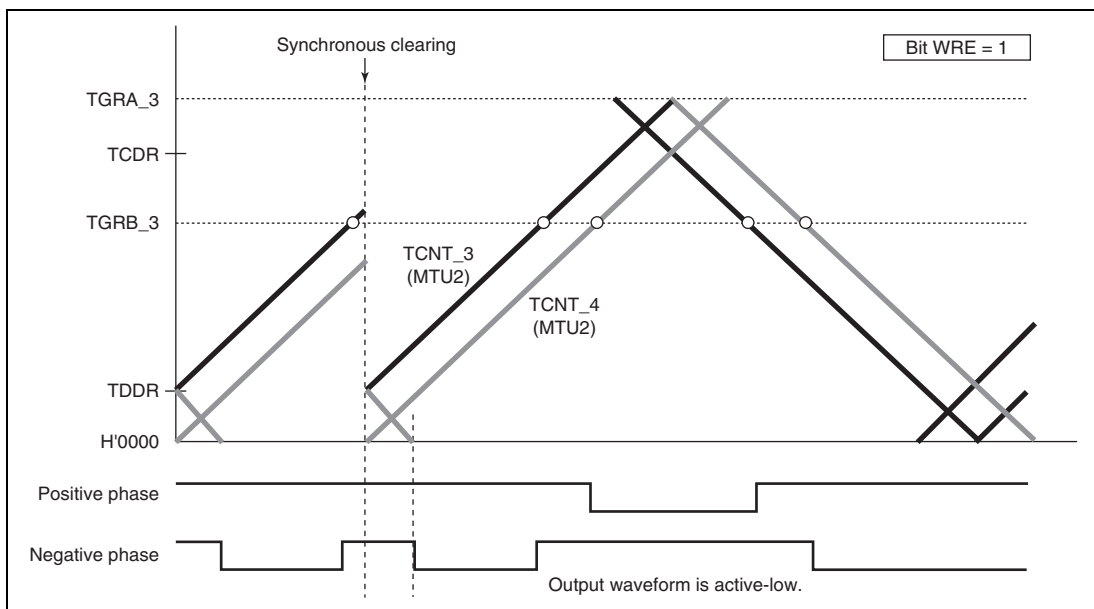

Figure 11.58 Example of Synchronous Clearing in Dead Time during Up-Counting
Figures 11.58 to 11.61 show examples of output waveform control in which this module operates in complementary PWM mode and synchronous counter clearing is generated while the WRE bit in TWCR is set to 1. In the examples shown in figures 11.58 to 11.61, synchronous counter clearing occurs at timing (3), (6), (8), and (11) shown in figure 11.56, respectively.